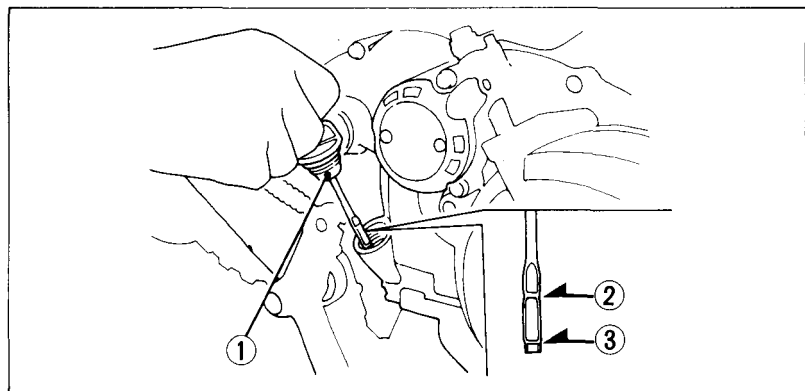

Fig. 4-10
4. After a few minutes, remove the oil filler cap/dipstick (Fig. 4-10) from the right crankcase cover and wipe it clean.
5. Insert the dipstick without screwing it in, then remove the dipstick and check the oil level. The oil level should be between the upper level mark (2) and the lower level mark (3) on the dipstick.
1. With the **FOURTRAX** on level ground, remove the oil filler cap/dipstick from the right crankcase cover (Fig. 4-10).